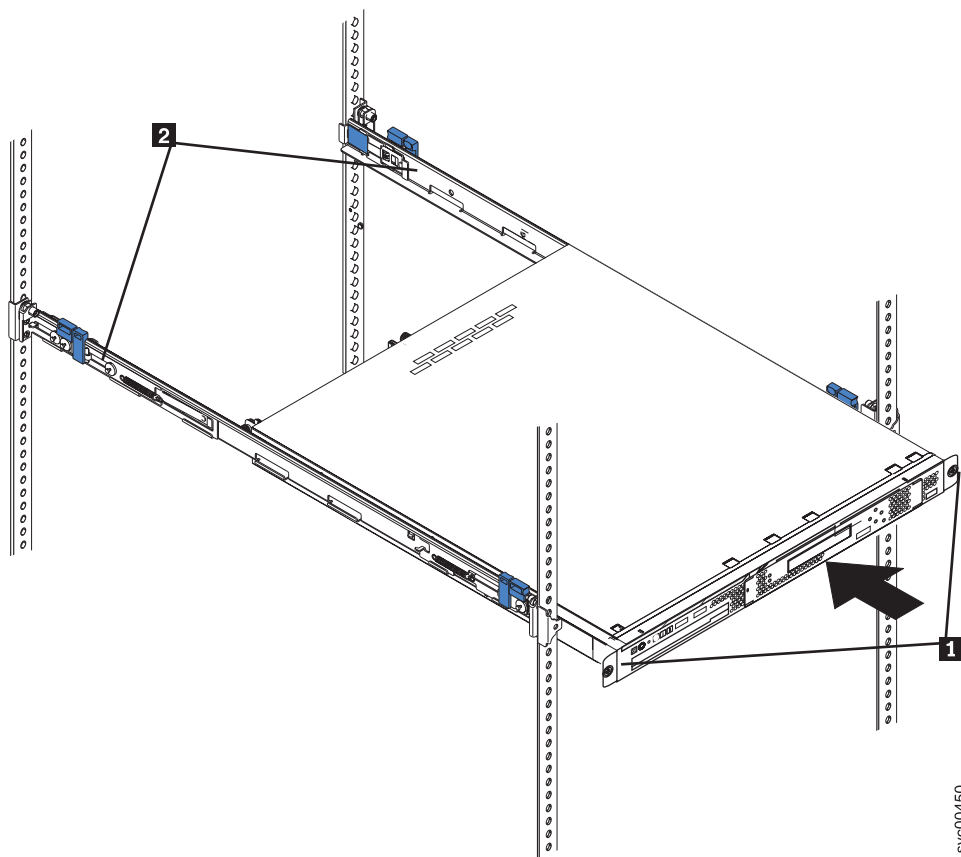

Figure 34. The captive thumbscrews that secure the node and the shipping brackets
3. Loosen the captive thumbscrews (**1** in Figure 34 on page 51) that secure the node to the front mounting flanges.